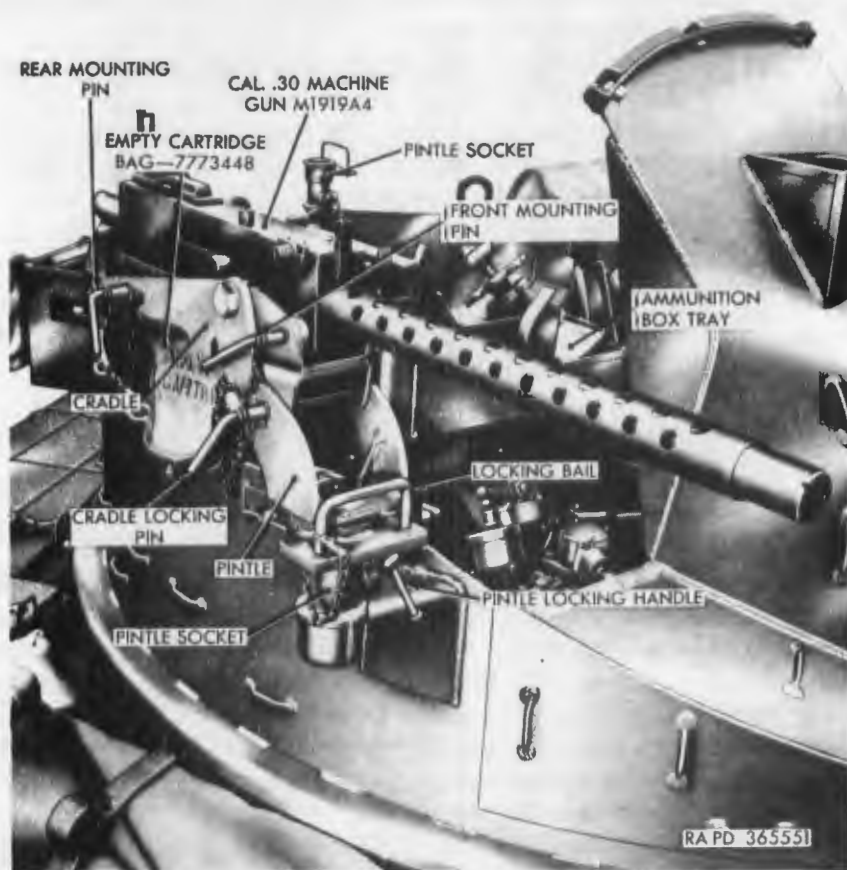

Figure 363. Cradle, pintle, ammunition box holder assembly (E10014), and cal..30 machine gun mounted on gun mount platform.
(fig. 363)
- a. Remove machine gun (fig. 363).
- b. Unscrew pintle locking handle (fig. 363).
- c. Lift cradle (fig. 363), pintle, and ammunition box holder assembly (E10014) out of pintle socket.
c. Keep machine gun (fig. 363), cradle, and pintle properly covered when not in use.
a. Install cradle pintle, and ammunition box holder assembly (E10014) in pintle socket (fig. 363).
b. Tighten pintle locking handle (fig. 363) to secure assembly.